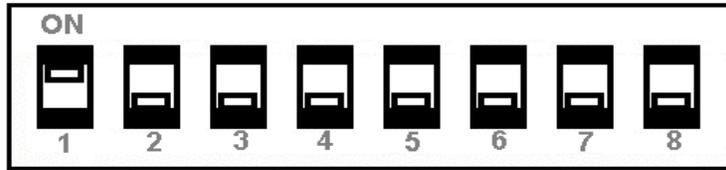

FIGURE 11: DIP SWITCH SETTINGS
- The DIP switch is located inside the battery compartment as illustrated below indicating the location of this switch. Figure 11 shows the DIP switch selection.